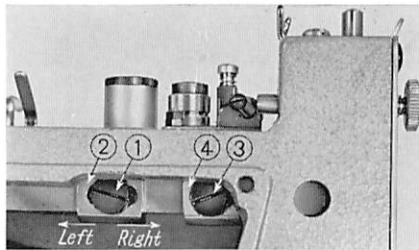

Fig. 9
11. FUNCTIONS OF THE THREAD PULL-OFF LEVER (Fig. 9)
However, during the sewing operation, adjust the nipper so that it will not hold the thread. As shown in Fig. 11, make this adjustment by loosening the nipper bar block set screw ③ Fig. 9, so that during the running, the clearance between the nipper block and the nipper becomes